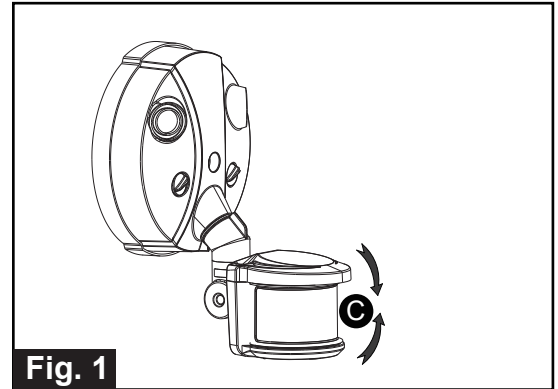

Fig. 1
2. You can rotate the sensor head (C) up and down to change the coverage area. (See Fig. 1) Walk through the detection zone at the farthest distance you wish to detect motion.